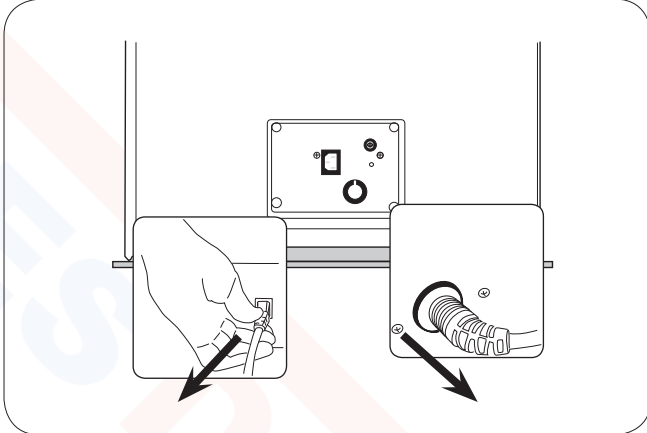

Figure 12 Unplug Foot Control and Power Cords
13. Unplug foot control and power cord and place into front storage drawer (Figure 12.).